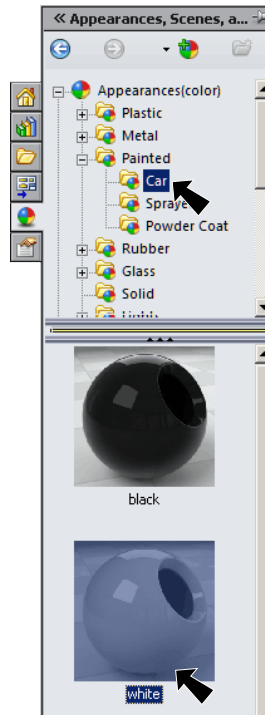

Fig. 10
Step 2. In the Appearances Task pane, expand **Painted**, click **Car** and in the lower pane select **white**, Fig. 10.